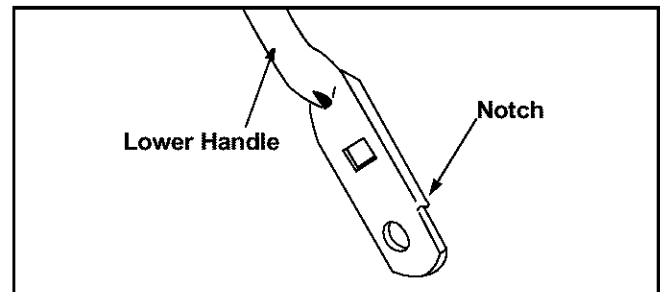

Figure 13
- Turn lower handle around so the notch on the bottom of the lower handle is facing forward. Reassemble, placing the bottom holes in the handle over the weld pins in the handle mounting bracket. See Figure 13.